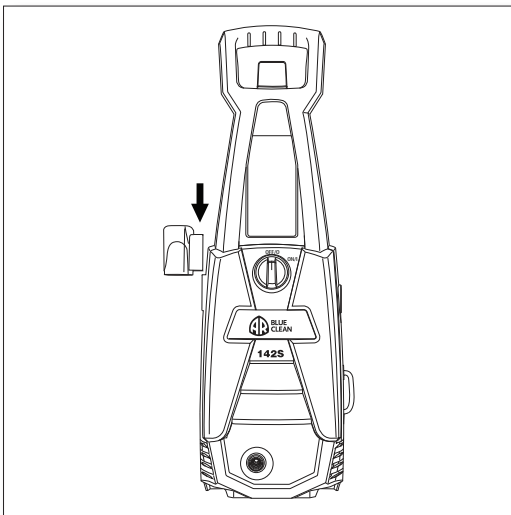

Fig. 2
- Slide the (spray gun holder) onto the left side of the washer when facing it. This does not require any screws. (**Fig. 2**)